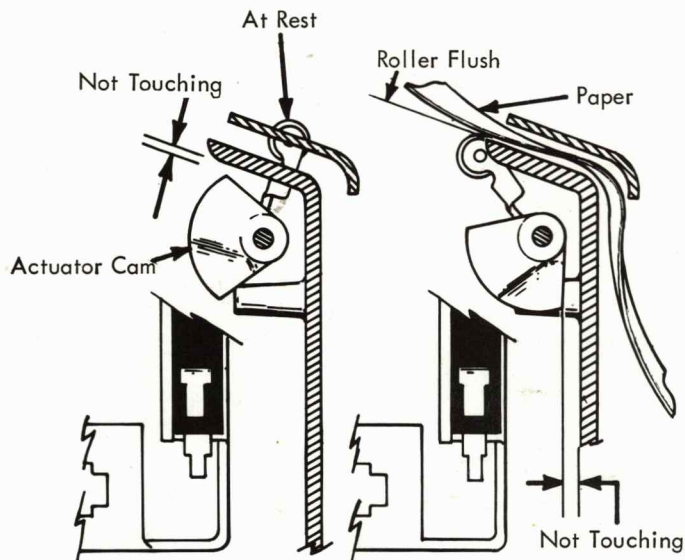

FIGURE 212. End of Forms Contact
- c. The actuator cam shall not touch front cover with roller arm at rest. Cam should not touch top of cover, with cam roller flush with front surface of front cover (Fig. 212).